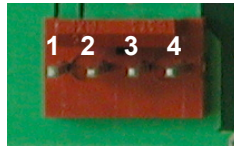

Figure 2-2 Power connector
4. Connect the power connector, making sure that the +5V goes to V+ as shown in Figure 2-2. Turn on the power: the LCD backlight should come on and you should see a blinking cursor at the top left.